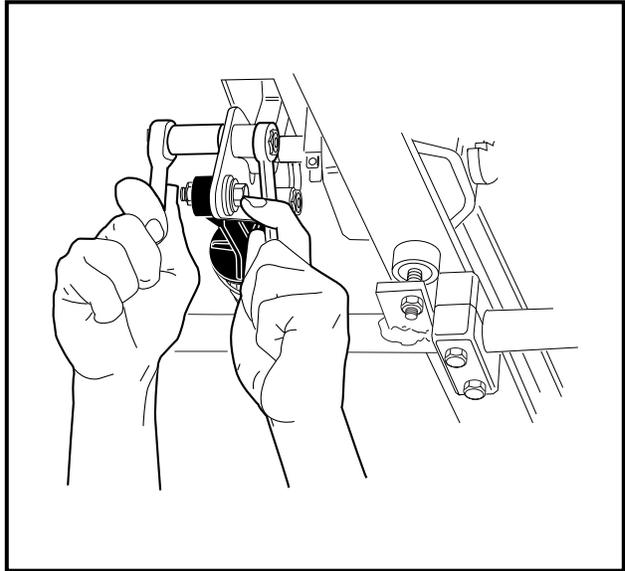

Figure 5-41 Accelerator Pedal Height Adjustment
- 5.1. Loosen the nut and bolt (Figure 5-41, Page 5-24) securing the accelerator pedal to the pivot plate.